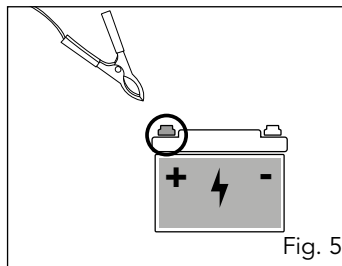

Fig. 5
2. Connect the red positive terminal clamp (+) (13) to the positive (+) pole on your vehicle 12V battery (fig. 5).